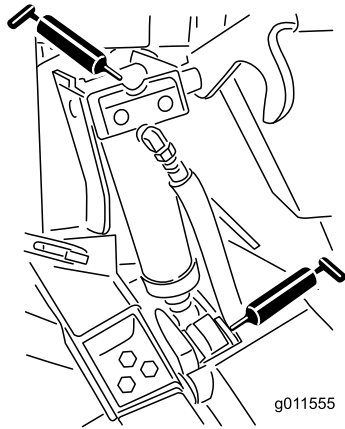

Figure 47
- Lift cylinder bushings (4) (Figure 47)